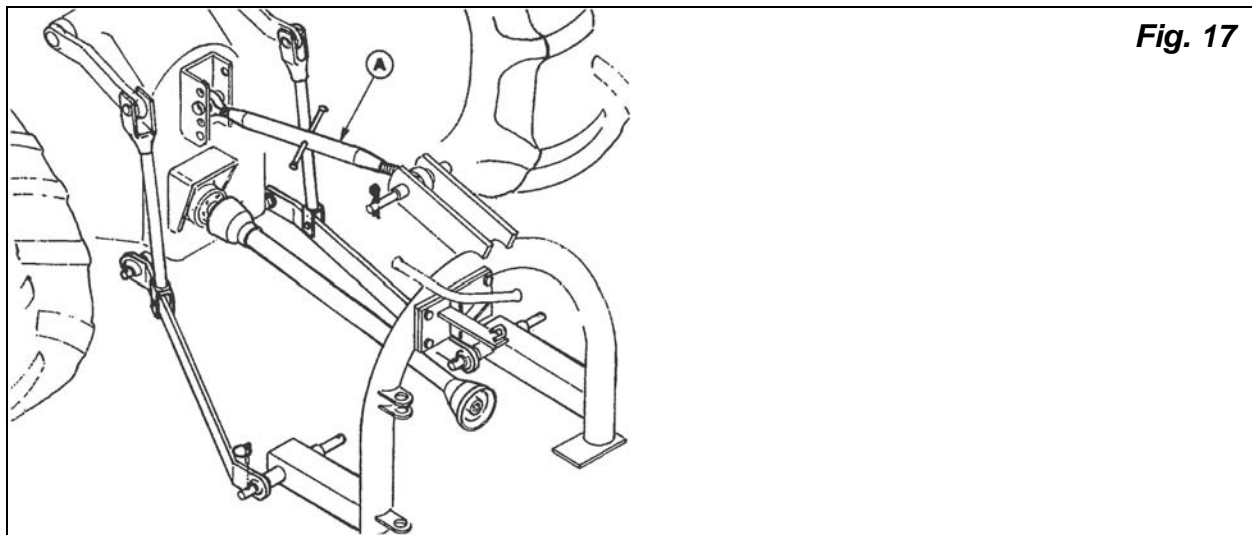

Fig. 17
Lower sickle bar mower on ground and adjust turnbuckle on top link (A) (see fig. 17) until the desired cutting height is obtained.